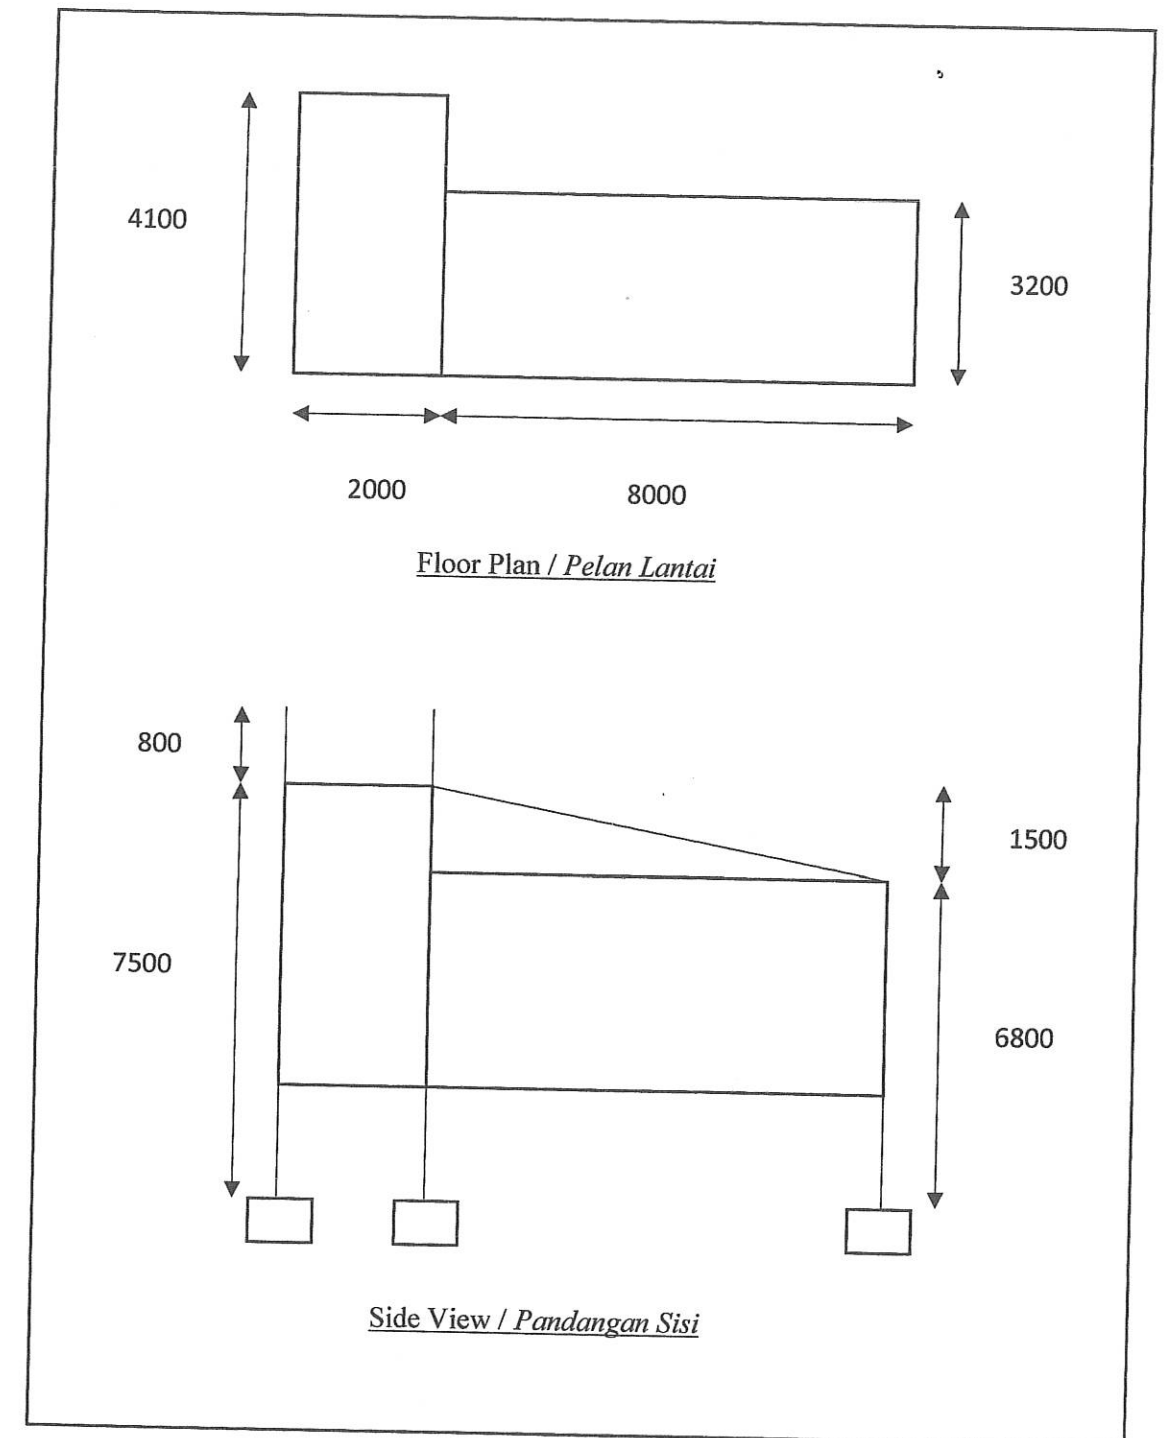

Figure B1/Rajah B1
- c) Based on **Figure B1**, calculate the cost of the building using the Cubic Content Method, assuming that the price rate is RM 550.00 / m³.